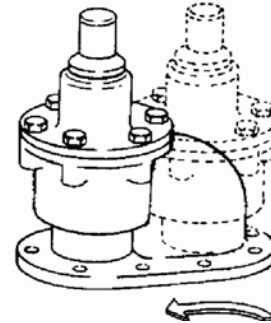

Figure 4 – Reversing the Relief Valve
The vanes (14) must be reversed so that the relief grooves face in the direction of rotation. On HXL10, HXL8 and HXLJ8 models, reverse the liner (41). If equipped with a pump mounted relief valve, it must also be reversed (see Figure 4). Refer to "Pump Disassembly" and "Pump Assembly" sections of this manual for parts removal and replacement instructions.